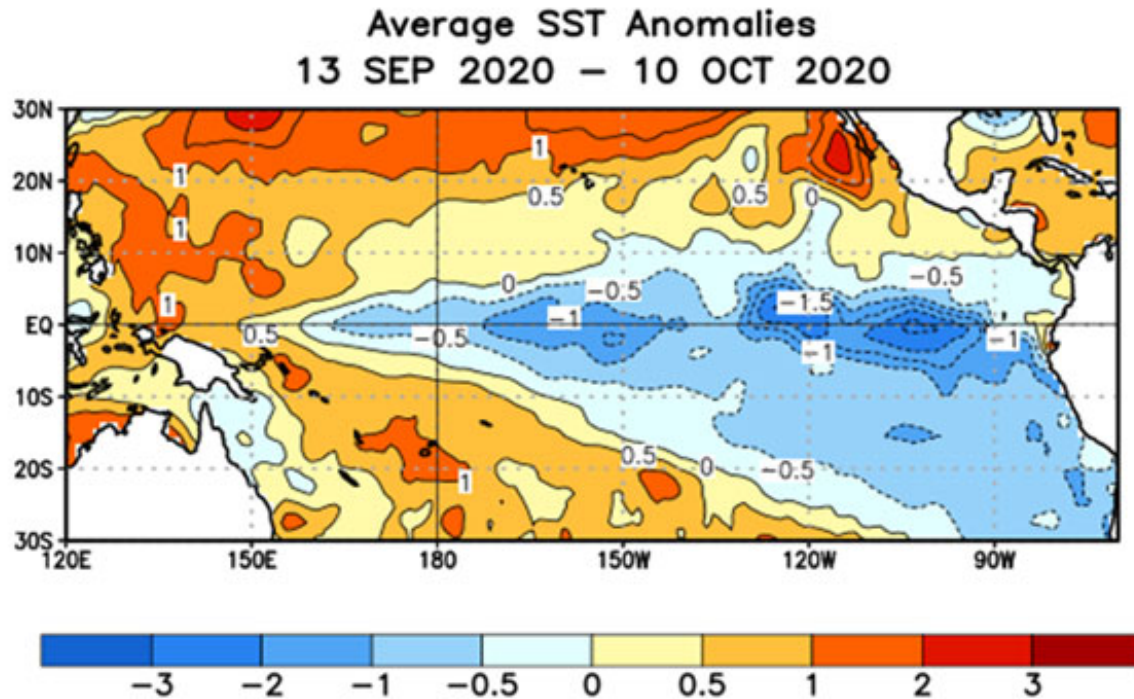

Figure 1. Current sea surface temperatures (SST) from the Climate Prediction Center.
An El Niño-Southern Oscillation (ENSO) event is defined as five consecutive 3-month periods where the waters of the Pacific along the equator are either warmer or colder than normal. If the water measures at least +0.5 degrees Celsius (C) warmer, an El Niño exists. However, if the water measures (via satellite) -0.5 degrees Celsius (C) or cooler-than-average a La Niña is present. As indicated by the current sea-surface temperatures (Figure 1), a weak La Niña is present, and is expected to strengthen and persist through the spring.